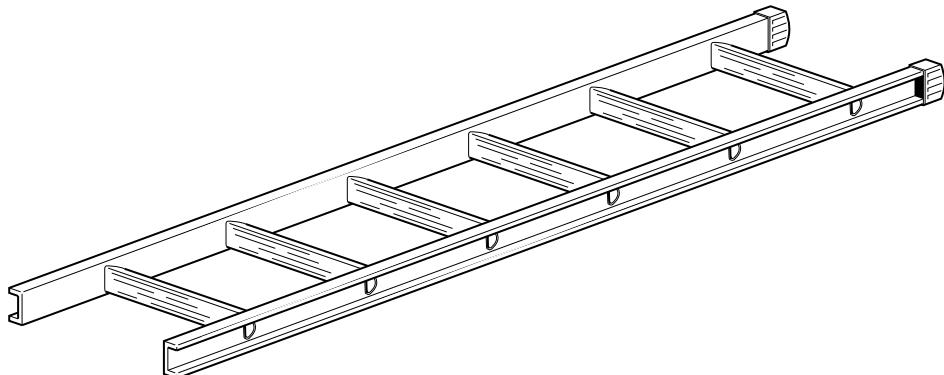

Fig. 6
Fig. 6 shows a ladder manufactured for household use.
- (a) Give **four** justified design requirements for a ladder of the type shown in Fig. 6.
- (b) Describe **two** examples where anthropometric data would have been used in the design of the ladder shown in Fig. 6.